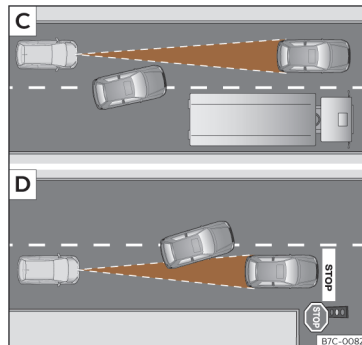

Fig. 163 **C** Vehicle changing lanes. **D** One vehicle turning and another stationary.
- Vehicles that move into your lane, a short distance from your vehicle»» Fig. 163 [C].
The ACC may not react to stationary vehicles. If, for example, a vehicle detected by the ACC turns or moves over and there is a stationary vehicle in front of it, the ACC will not react to the second vehicle»» Fig. 163 [D].